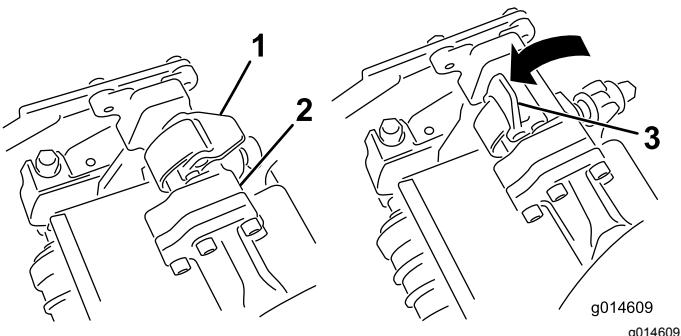
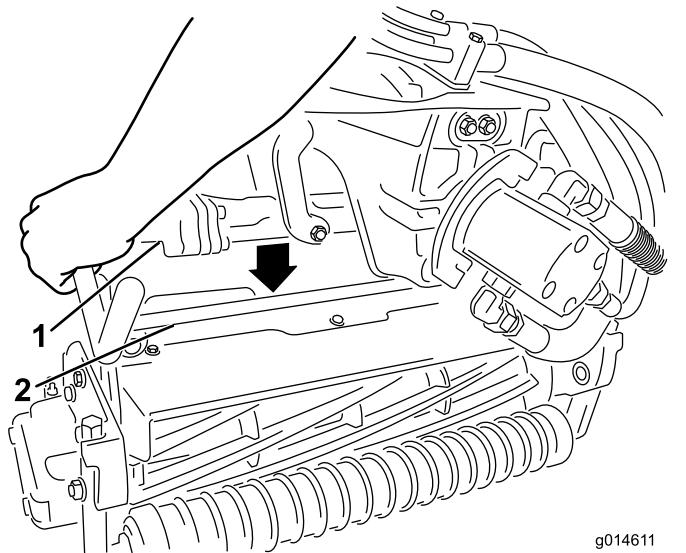

Figure 32
Figure 33
3. With the latches on the suspension-arm bar pointing up (i.e., open) (Figure 32), push the suspension arm down so that the bar fits over the bar across the top of the cutting unit (Figure 33).
4. Close the latches down and around the cutting-unit bar and lock them in place (Figure 32).
4. Open the latches on the suspension-arm bar of the cutting unit you are removing (Figure 32).